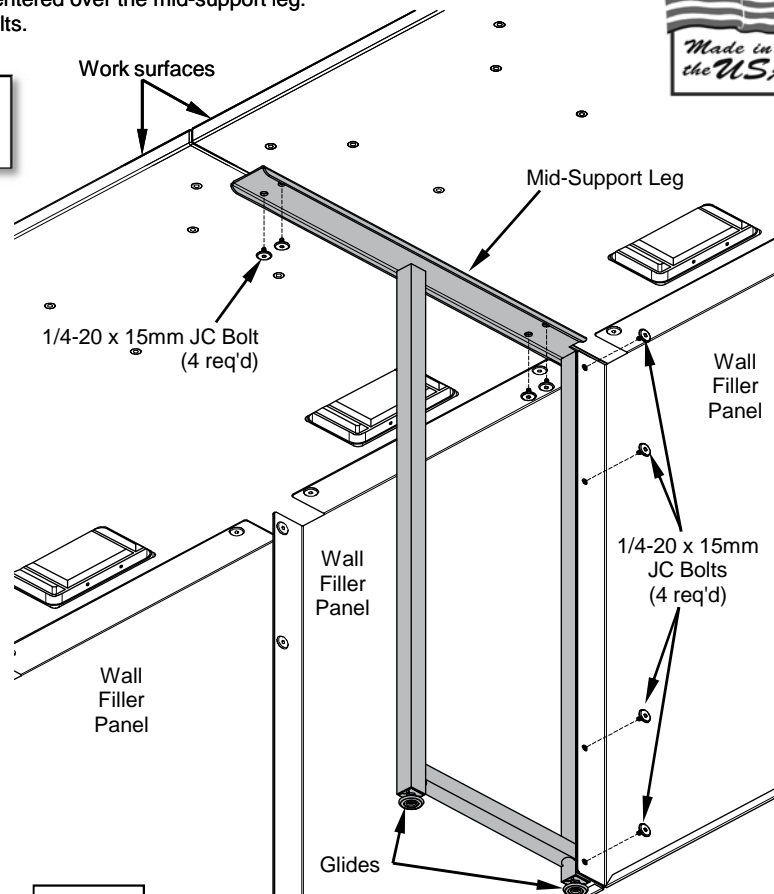

Figure 1
- Install the (2) glides onto the bottom of the leg. The glides can be adjusted later to level the console.
- Align the mid-support leg and wall filler panel mounting holes as shown. **Figure 1.**
- Attach the mid-support leg to the wall filler panels with (4) 1/4-20 x 15mm JC bolts.
- Attach to work surfaces with (4) 1/4-20 x 15mm JC bolts.